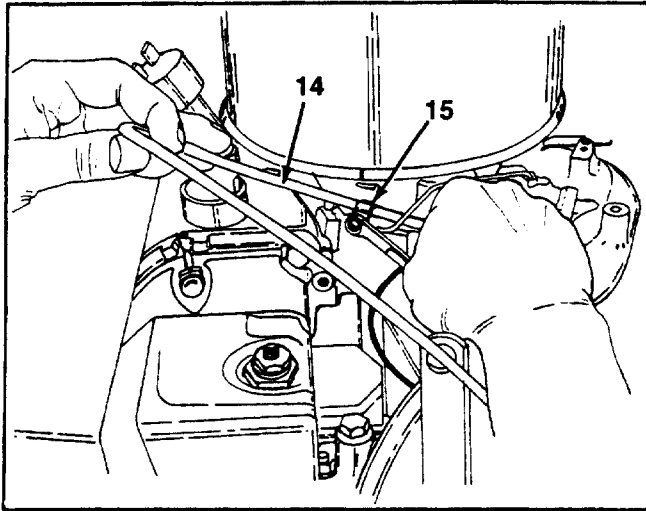

FIGURE 10.
12. Remove the choke cable, located on the left hand side of engine. See figure 10. Loosen the hex bolt and cable clamp.